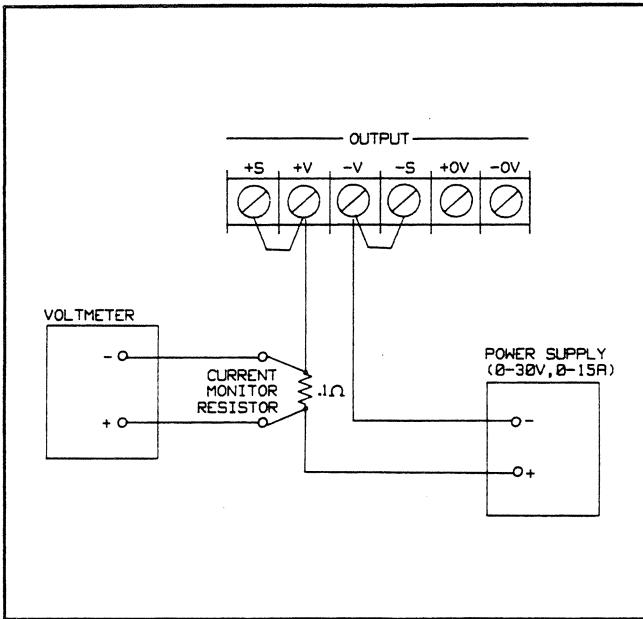

Figure 3-12. Negative Current Limit (-CC) Readback Accuracy
- a. Turn off the supply and connect the output to be tested as shown in Figure 3-12.